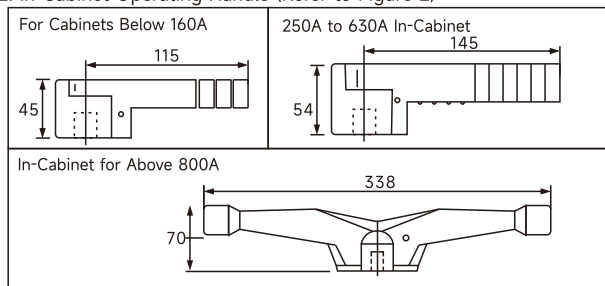

Figure 2: In-Cabinet Operating Handle
2. In-Cabinet Operating Handle (Refer to Figure 2)